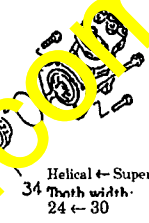

Fig. 9
(5) Change of air compressor gear (Fig. 9)